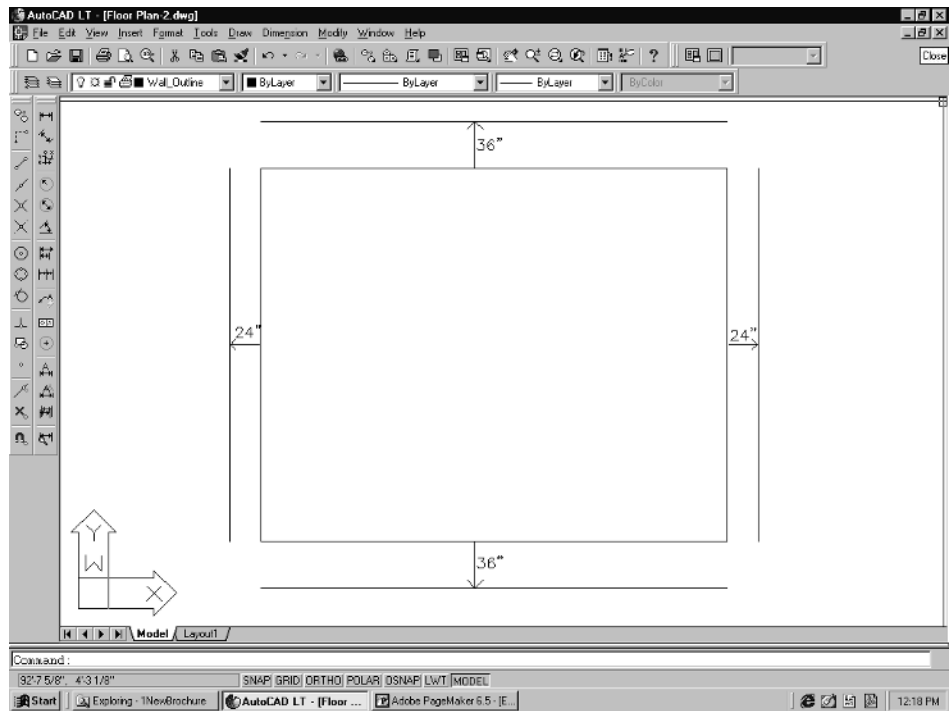

Figure 3-17
2. Copy the exterior lines of the foundation plan over to the right, away from the foundation plan. Change their layer property from Foundation-1 to **WALL_OUTLINE**. Then offset these lines **36"** out on the long sides, and **24"** out on the gable end or rake wall sides as shown in Figure 3-17.